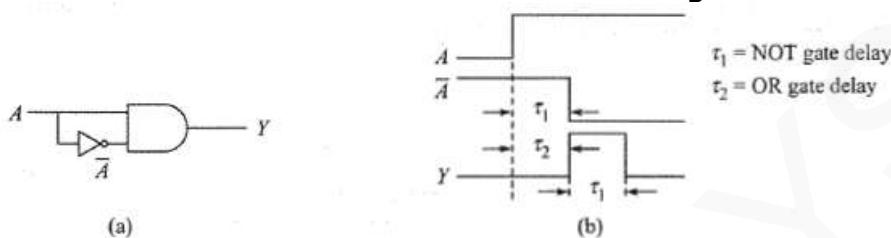

Figure 3.36: Static-0 hazard
- In a combinational circuit, if output goes momentarily 1 when it should remain a 0, the hazard is known as **static-0 hazard** (Figure: 3.36).